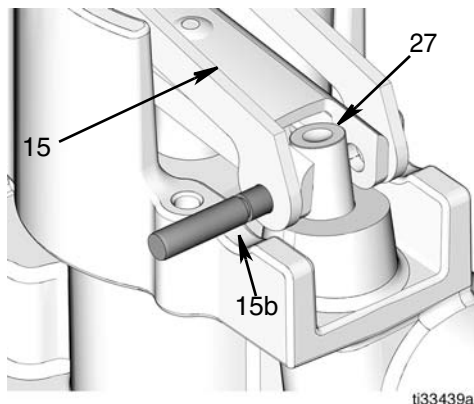

FIG. 36
1. Secure metered dispense valve in vise. Align holes in trigger assembly with holes in trip rod (27).
2. Install trigger assembly (15) (FIG. 36). Push pin (15b) through holes in trigger (15) and trip rod assembly (27).